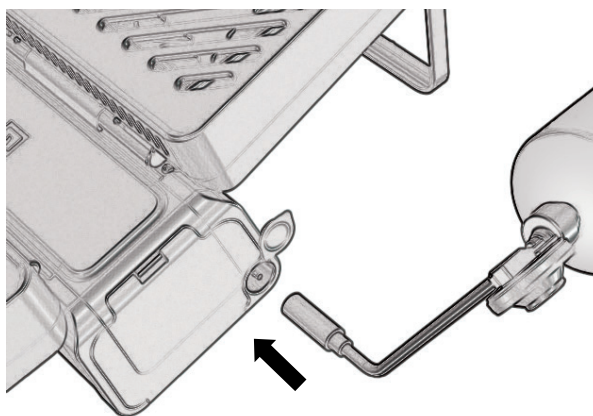

FIG. 02
3. Attach regulator to the inlet valve located behind the base of the grill (Fig. 02).